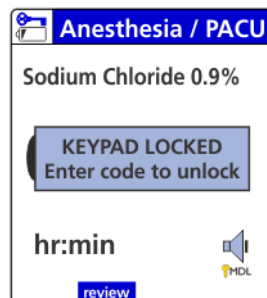

Figure 127. Keypad Lock Popup Message.
- » While the Pump is infusing, enter the keypad lock code 429. A popup message appears briefly indicating that the keypad has been locked. See Figure 127.
Pressing any key while the keypad is locked causes the same popup message to be displayed. See Figure 127.